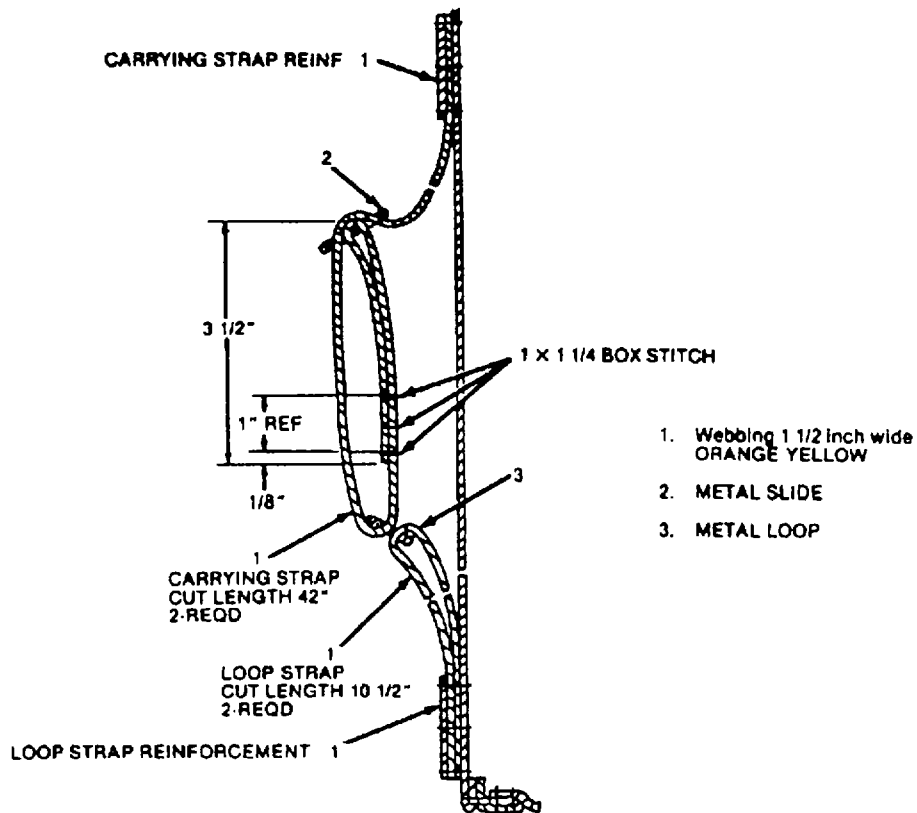

Figure 2-8. Equipment Bag Strap
- (2) Cut 1 15-inch length of cotton tape (D52) and wax the ends.
- (3) Center the tape length over the original tie tape location and secure the replacement tape with four rows of stitching or bar-tack according to original construction details and paragraph 2.12, using the specifics in Table 2-4.
- (g) Replacing nylon straps and handles (See Figure 2-8).
- (1) Equipment Bag
- (2) Loop one end of the carrying strap over and then under the center bar of the slide. Make one 3-1/2 inch loop, 1/8 inch from the seared end. Stitch across the double thickness webbing 1 inch from the cross stitch toward the slider or loop end. Sew across the double thickness webbing. From the bottom cross-stitch make a 1 x 1-1/4 box stitch. Do this to both 42 inch straps. After the loop is on the center bar of the slide, take the webbing under, over and back through the slide. Take the reinforcement strap, measure down from the pocket seam 3/4 inch and sew the seared end of the carrying strap underneath using a boxed x stitch. Do this to both carrying straps.
- (3) Bottom attaching points.